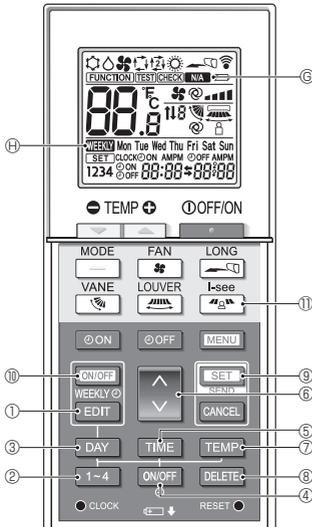

Fig. 4-3
<Switching to the editing mode> (Fig. 4-3, Fig. 4-4)
Press the **1-4** button ②. (Fig. 4-3, Fig. 4-4)
- Each time the **1-4** button ② is pressed, the pattern number ④ changes in the following order: 1 → 2 → 3 → 4.
Press the **DAY** button ③. (Fig. 4-3, Fig. 4-4)
- Each time the **DAY** button ③ is pressed, the day of the week ⑤ changes in the following order: Mon → Tue → Wed → Thu → Fri → Sat → Sun → All days.
1. Press the **ON/OFF** button ④. (Fig. 4-3, Fig. 4-5 ⑥)
- Each time the **ON/OFF** button ④ is pressed, the setting switches between **ON** and **OFF**.
2. Press the **TIME** button ⑤. (Fig. 4-3, Fig. 4-6)
- Press the **↓** button ⑥ to set the operation time.
3. Press the **TEMP** button ⑦. (Fig. 4-3, Fig. 4-7, Fig. 4-8)
- Press the **↓** button ⑥ to set the temperature.
- When the **AUTO** (dual set point) mode is enabled, press the **TEMP** button ⑦ to switch between the upper limit ⑥ and the lower limit ⑥.
<Deleting the settings> (Fig. 4-3)
<Transmitting the settings> (Fig. 4-3)
<Enabling the weekly timer> (Fig. 4-3)
4.7. i-See sensor (Fig. 4-3)